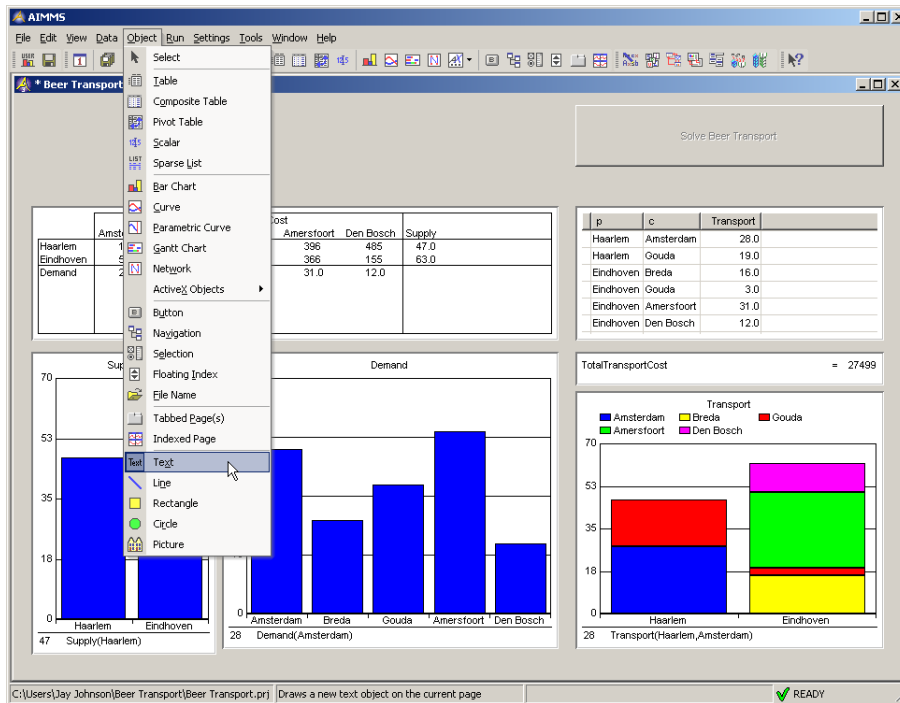

Figure 6.8: The Object menu of a page in Edit mode
- ▶ select the **Text** command from the **Object** menu (see Figure 6.8), and draw a rectangle using the mouse,